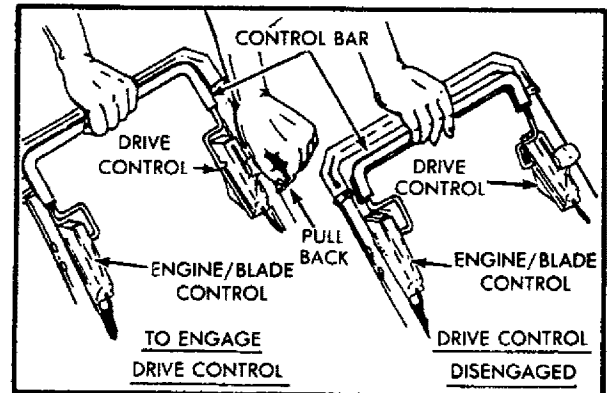

FIG. 16
With the engine running, the power-propelled motion is controlled by pulling the drive control lever until it clicks at which time the lever may be released (See Fig. 16).
5. Hold, clip, or tape down the drive control bar and engage the drive control (See Fig. 16).